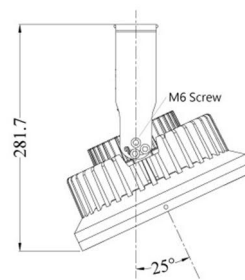

Figure 5
- ☞ Position the bracket holders and fix it by means of the provided M6 screws, 24.5 kgf-cm. (Figure 5)